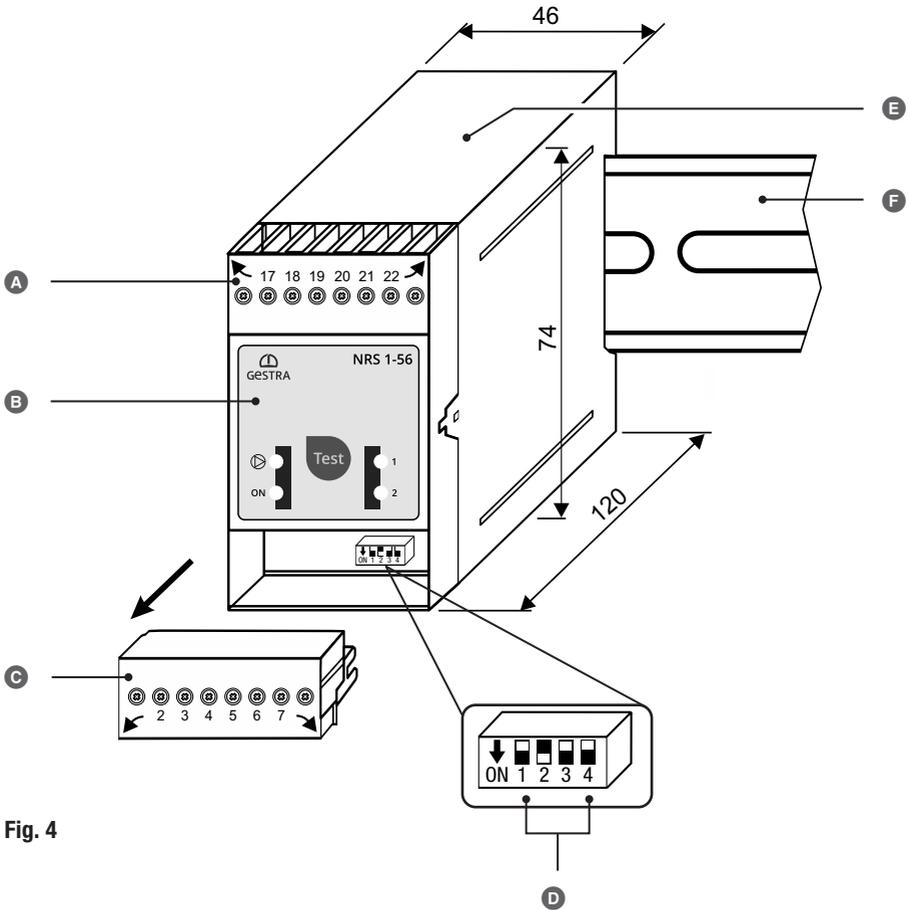

Fig. 4
The sensitivity and function are determined by the code switch  (see **Fig. 4**). To make changes, you can access the code switch as follows:
3. Set code switch  (see **Fig. 4**) as desired.